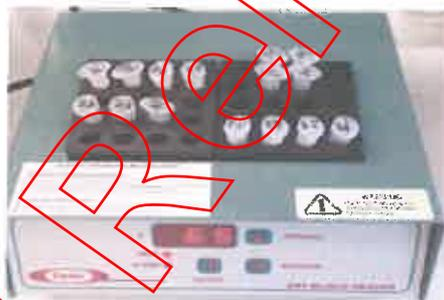

Figure 3: Heating Block containing samples for tissue lysis
- 7.2.5 Add 80µL Proteinase K, mix by vortexing (pulse vortexing 5-10 seconds) and incubate on heater block at 65°C until the tissue is completely lysed (Figure 3). Lysis is usually complete in 4-24 hours depending on the food matrix. Refer to DNeasy Blood and Tissue Kit Handbook for further details